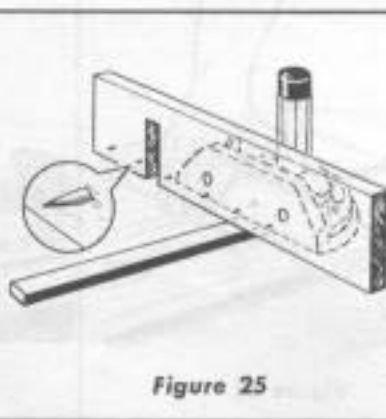

Figure 25
- An auxiliary wood extension bolted to the miter gauge greatly improves the gauge as a support. (See figure 25.) If fitted with pin points (phonograph needles are excellent) or sandpaper, the extension will help prevent side creep of the work.